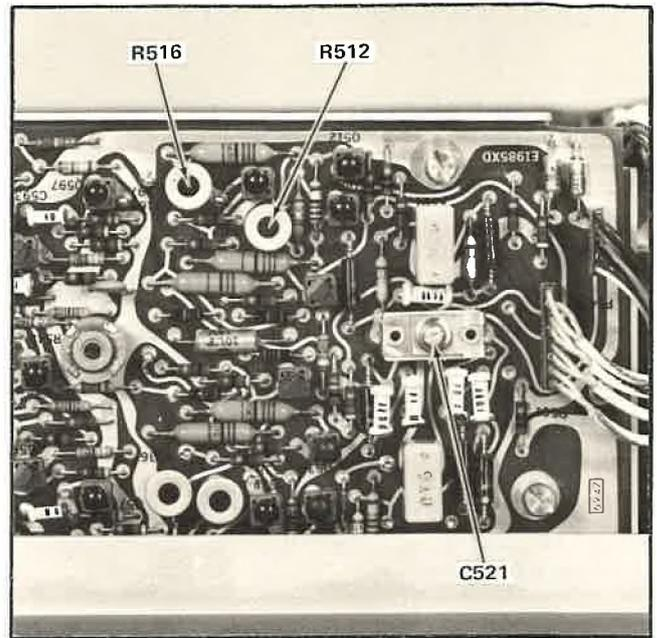

Fig. 5-17. Location of Horizontal Amplifier adjustments.
i. ADJUST—C521 (see Fig. 5-17) for an eye opening of 0.28 divisions or less.
l. ADJUST—R516 and R512 (see Fig. 5-17) on Horizontal Amplifier board, for Right Vertical unit readout display word "IDENTIFY" to occupy the center two divisions (horizontally) of the graticule area.